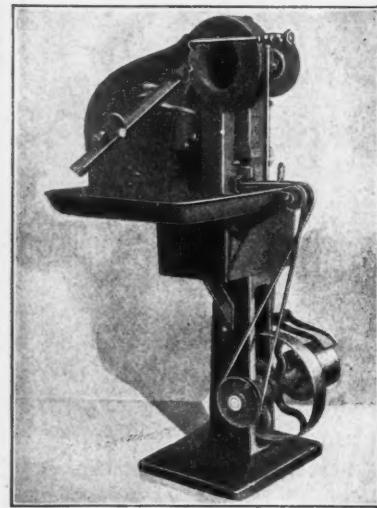

Fig. 15. Water Twist Drill Grinder.
L. S. Heald & Son, Barre, Mass., are now building certain styles of their "American" twist-drill grinder with a water attachment for flushing the drill while being ground. Fig. 15 gives a general view of style W. T. A. of the drill so arranged. Not only the matter of supplying sufficient quantities of water, but also that of properly taking care of it after it has been put on the wheel, has been carefully worked out in this machine by the provision of a system of hoods, shield and drainpan below.